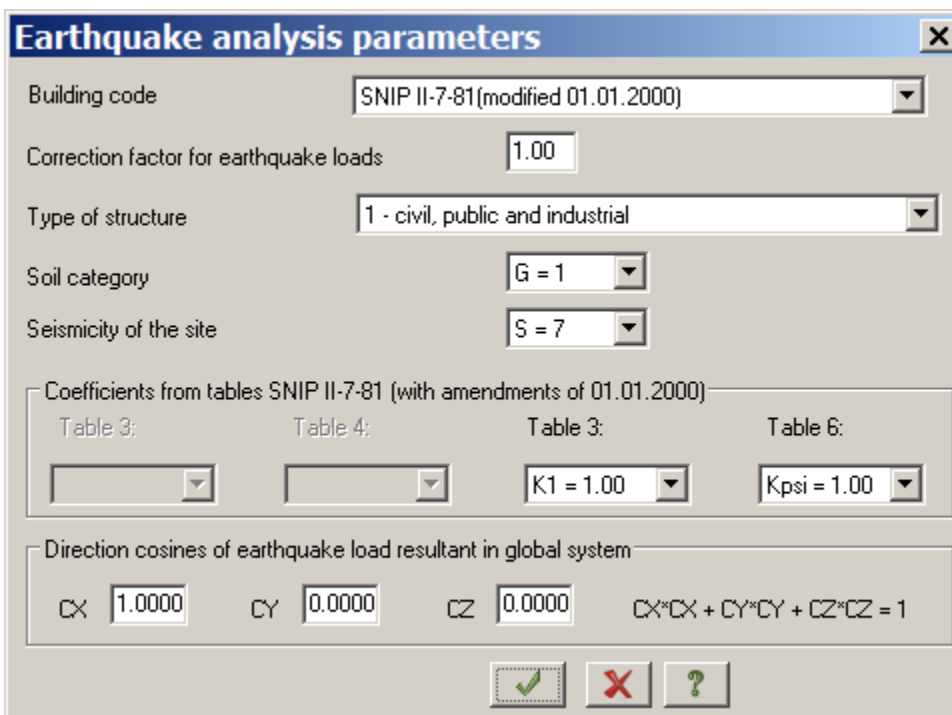

Figure 11.26 Table of dynamic load cases dialog box
- ⇒ In the **Table of dynamic load cases** dialog box (see Fig.11.26), define the following data:
- dynamic load type – **Earthquake /01.01.2000/SP 14.13330.2011/ (35)**;